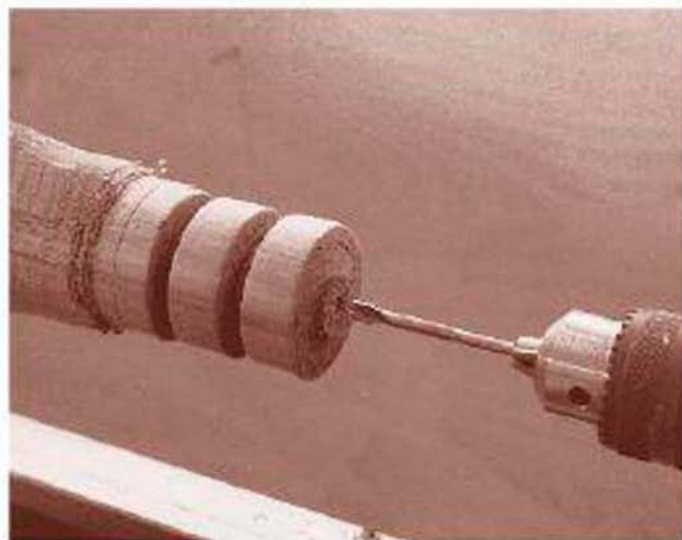

Figure 15-10
- 6** On the lathe, drill a $\frac{1}{4}''$ -diameter hole through the length of the project (Fig 15-10). It's a straightforward procedure, as long as you advance and withdraw the drill in a series of small steps. Run the drill in to a depth of about $\frac{1}{4}''$, then draw it back to clear the waste, then sink the hole another $\frac{3}{8}''$, then withdraw and clear the waste, and so on until the hole is complete.